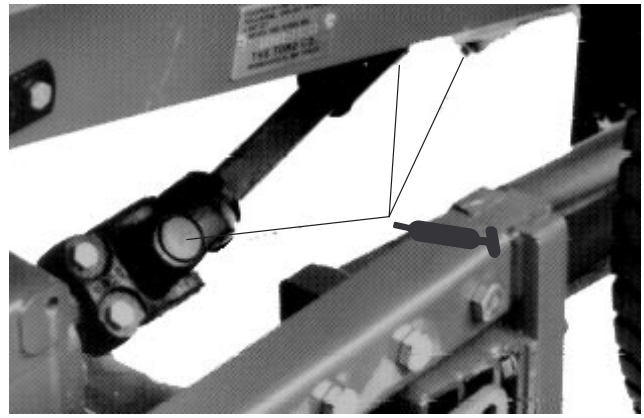

Figure 25
- PTO universal shaft (Fig. 25)